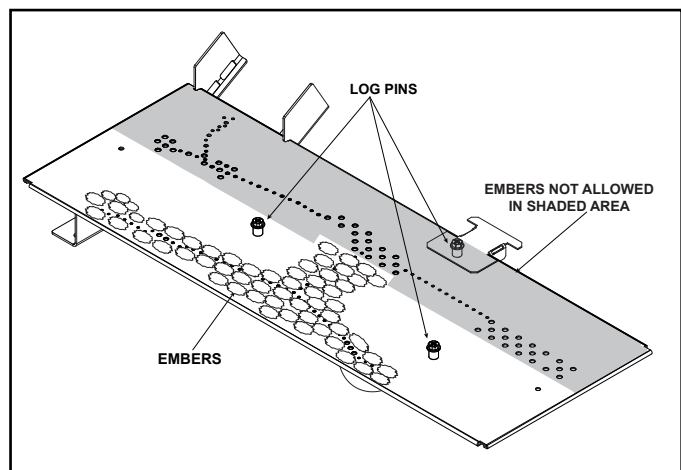
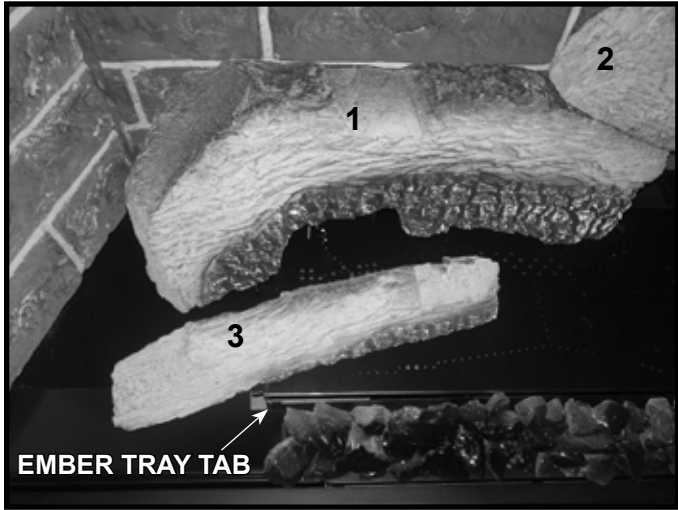
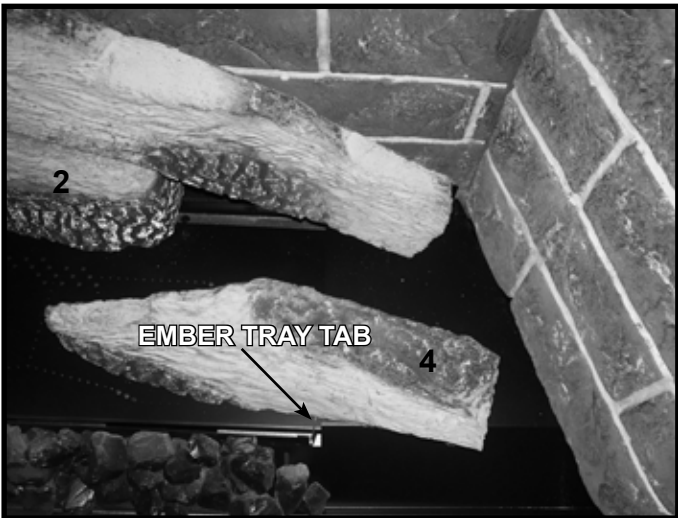

Figure 2 Log Pin and Glowing Ember Locations
Figure 5 Install Log #3
Figure 6 Install Log #4
1. **LOG #1:** Locate and install the Log #1 by installing the right end of the log over the rear log pin. See Figure 2 for log pin locations. Then rotate the left end of the log until it contacts the rear refractory panel. See Figure 3.
- LOG #3:** Locate and install Log #3 by installing the “right” end of the log over the left burner pin and pressing “down” to engage log pin. See Figure 2 for log pin locations. Rotate Log #3 counterclockwise until it contacts the ember tray tab as shown in Figure 5.
- LOG #4:** Locate and install the Log #4 by installing the “left” end of the log over the right log pin and pressing “down” to engage the log pin. See Figure 2 for log pin locations. The face of the log should contact the right ember tray tab. See Figure 6.
- Locate the glowing embers and install them as shown in Figure 2. Do not install any glowing embers on the back row of burner ports. Glowing Embers can be placed directly over burner ports. However, for optimal front flame height place embers around burner ports.